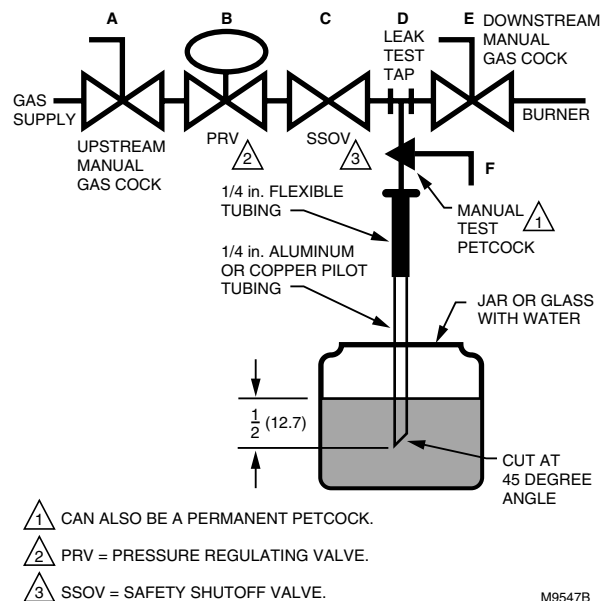

Fig. 7. Valve leak test.
8. Make electrical connections as shown in Fig. 7 and 8.
Valve Leak Test (See Fig. 7).